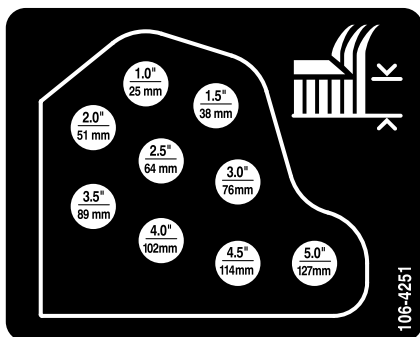

Figure 18
- Mount the height-of-cut chains to the desired height-of-cut hole (Figure 18) with the clevis pin and hairpin cotter.